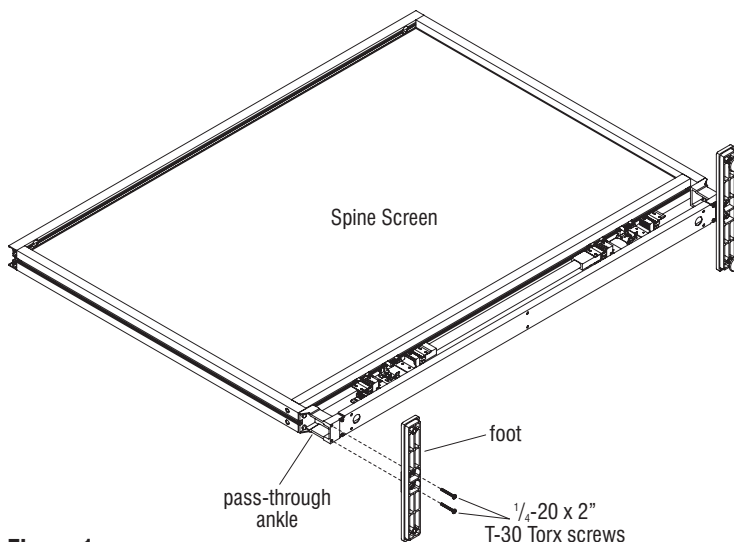

Figure 1
1. Carefully lay Spine Screen flat onto a soft, protective surface (Figure 1).
2. Orient each foot such that the wider positioned "EL" mounting holes are to the outside of the Spine Screen unit and the narrower positioned "NE" holes are positioned closer to the center (Detail A), then position each foot over the corresponding mounting holes of the pass-through ankle. Secure each foot to the pass-through ankle using two 1/4-20 x 2" T-30 Torx screws (Figure 1 & Detail A).
3. Twist the height-adjustable glides in clock-wise, fully to the bottom of the foot. This will allow for upward adjustment of the screen, if required at the final installation location (Figure 1 & Detail B).